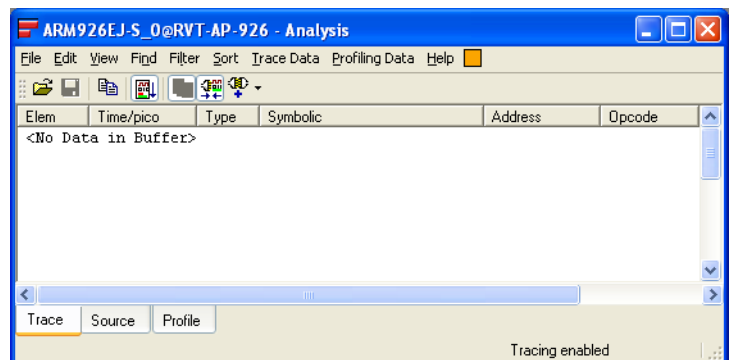

Figure 10-3 Analysis window
- a. Select **Analysis Window** from the **View** menu to display the Analysis window. Figure 10-3 shows an example: